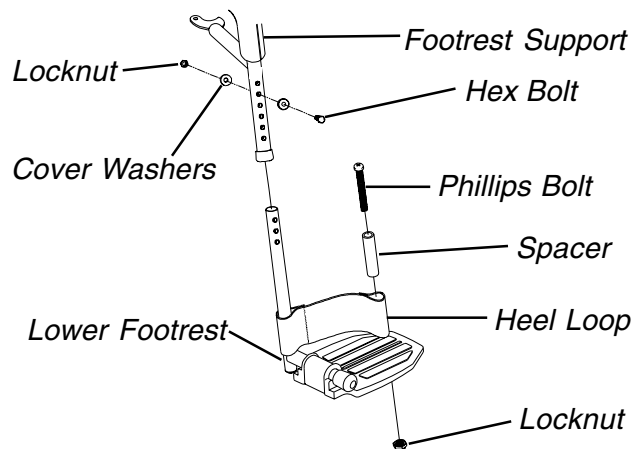

FIGURE 4 - REPLACING HEEL LOOPS
**REPLACING HEEL LOOPS (FIGURE 4)**